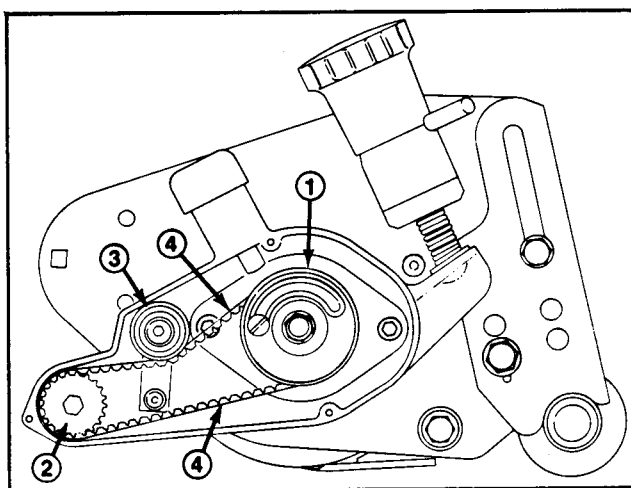

Figure 45
2. Loosen the backside idler pulley pivot screw (Fig. 45). Pivot idler to loosen and remove belt.
4. Install groomer reel housing cover. Install clutch knob and tighten two (2) set screws against flats on release disk.
3. Remove groomer driven pulley from groomer reel shaft (left-hand thread) (Fig. 45).
2. Loosen idler pulley pivot screw (Fig. 45). Pivot idler to loosen belt.